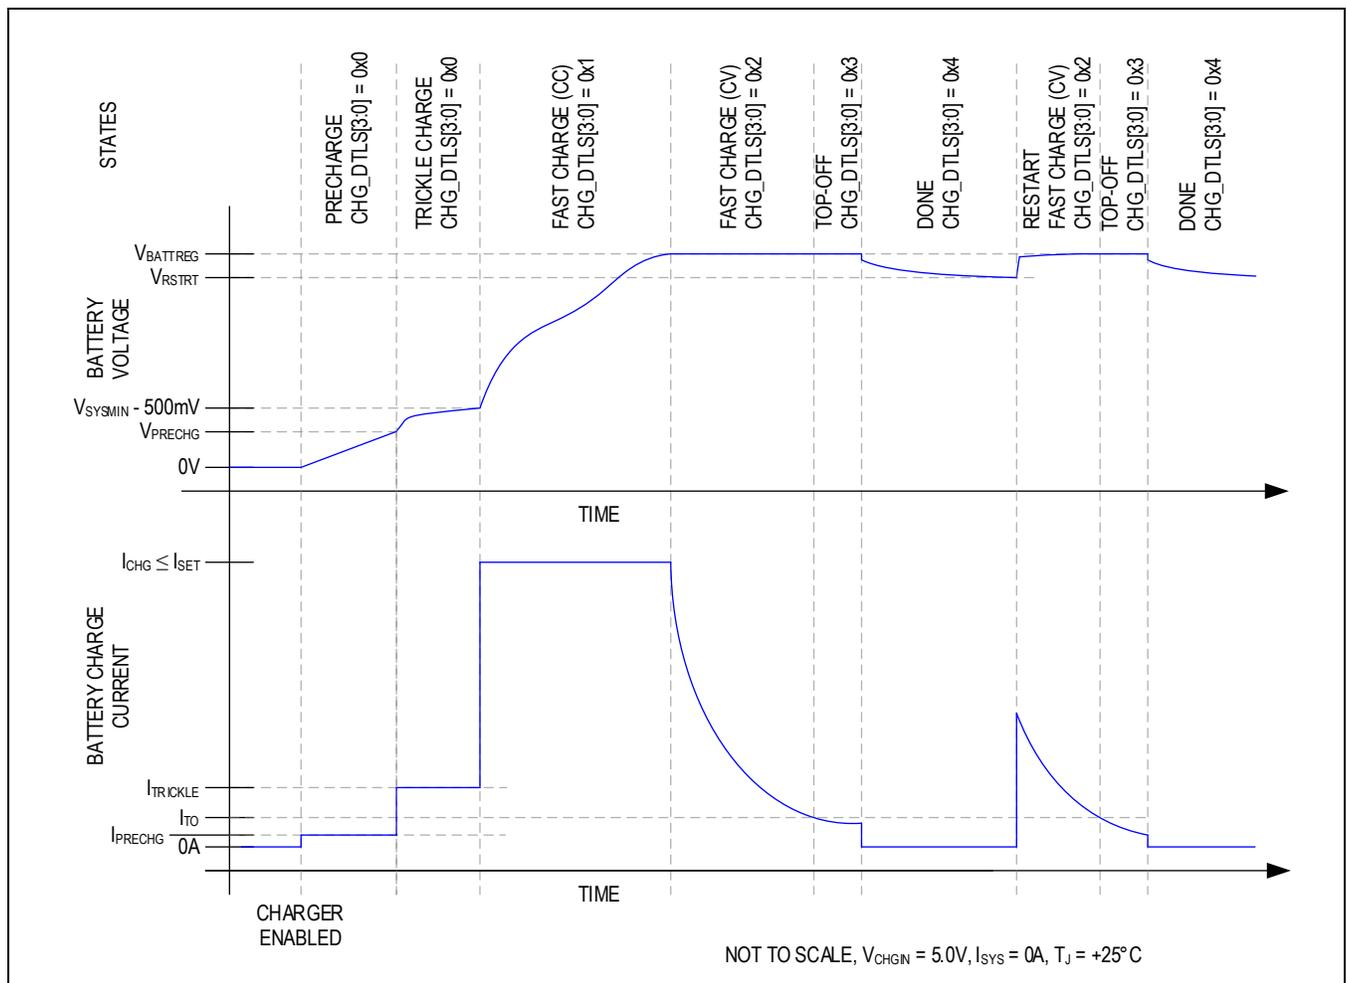
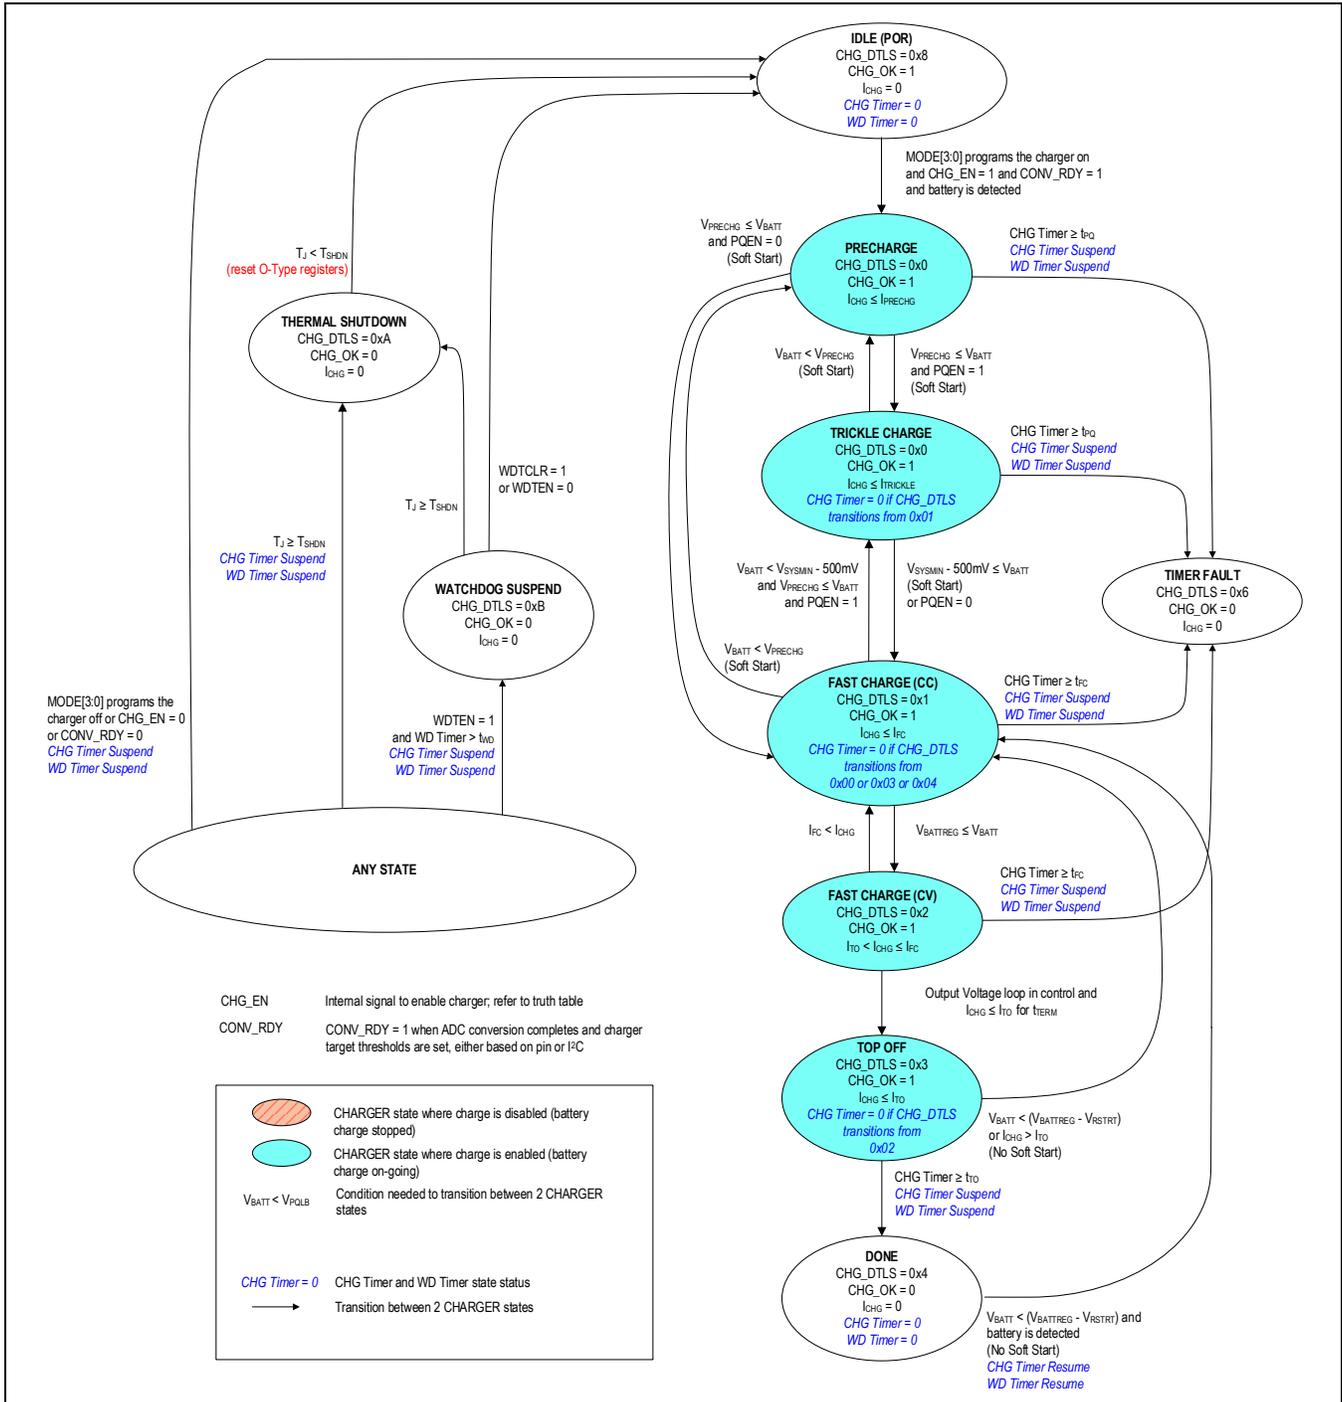

Figure 3. Li+/Li-Poly Charge Profile
Figure 4. Charger State Diagram
The MAX77963 utilizes several charging states to charge batteries safely and quickly as shown in Figure 3 and Figure 4. Figure 3 shows an exaggerated view of a Li+/Li-Poly battery progressing through the following charge states when there is no system load, and the die and battery are close to room temperature: Prequalification  $\rightarrow$  Fast-charge  $\rightarrow$  Top-off  $\rightarrow$  Done.
From any state shown in Figure 4, except thermal shutdown, the “no input power or charger disabled” state is entered whenever the charger is programmed to be off or the charger input CHGIN is invalid. After being in this state for tSCIDG, CHG\_DTLS is set to 0x08, and CHG\_OK is set to 1. A CHG\_I interrupt is generated if CHG\_OK was 0 previously.
As shown in Figure 4, the charger enters the precharge state when the battery voltage is less than  $V_{PRECHG}$ . After being in this state for  $t_{SCIDG}$ , a CHG\_I interrupt is generated if CHG\_OK was 0 previously, CHG\_OK is set to 1, and CHG\_DTLS is set to 0x00. In the precharge state, charge current into the battery is  $I_{PRECHG}$ .
As shown in Figure 4, the charger state machine is in trickle charge state when  $V_{PRECHG} < V_{BATT} < V_{SYSTEMIN} - 500mV$ . After being in this state for  $t_{SCIDG}$ , a CHG\_I interrupt is generated if CHG\_OK was 0 previously, CHG\_OK is set to 1, and CHG\_DTLS = 0x00.
As shown in Figure 4, the charger enters the fast-charge constant current (CC) state when  $V_{SYSTEMIN} - 500mV$  (typical)  $< V_{BATT} < V_{BATTREG}$ . After being in the fast-charge CC state for  $t_{SCIDG}$ , a CHG\_I interrupt is generated if CHG\_OK was 0 previously, CHG\_OK is set to 1, and CHG\_DTLS = 0x01.
As shown in Figure 4, the charger enters the fast-charge constant voltage (CV) state when the battery voltage rises to  $V_{BATTREG}$  from the fast-charge CC state. After being in the fast-charge CV state for  $t_{SCIDG}$ , a CHG\_I interrupt is generated if CHG\_OK was 0 previously, CHG\_OK is set to 1, and CHG\_DTLS = 0x02.
In the fast-charge CV state, the battery charger maintains  $V_{BATTREG}$  across the battery and the charge current is less than or equal to  $I_{FC}$ . As shown in Figure 3, charger current decreases exponentially in this state as the battery becomes fully charged.
As shown in Figure 4, the top-off state can only be entered from the fast-charge CV state when the charger current decreases below  $I_{TO}$  for  $t_{TERM}$ . After being in the top-off state for  $t_{SCIDG}$ , a CHG\_I interrupt is generated if CHG\_OK was 0 previously, CHG\_OK is set to 1, and CHG\_DTLS = 0x03. In the top-off state the battery charger maintains  $V_{BATTREG}$  across the battery and typically the charge current is less than or equal to  $I_{TO}$ .
As shown in Figure 4, the battery charger enters its done state after the charger has been in the top-off state for  $t_{TO}$ . After being in this state for  $t_{SCIDG}$ , a CHG\_I interrupt is generated only if CHG\_OK was 0 previously, CHG\_OK is set to 0, and CHG\_DTLS = 0x04.
The battery charger provides both a charge timer and a watchdog timer to ensure safe charging. As shown in Figure 4, the charge timer prevents the battery from charging indefinitely. The time that the charger is allowed to remain in its prequalification states is  $t_{PQ}$ . The time that the charger is allowed to remain in the fast-charge CC and CV states is  $t_{FC}$  which is programmable with FCHGTIME. Finally, the time that the charger is in the top-off state is  $t_{TO}$  which is programmable with TO\_TIME. Upon entering the timer fault state, a CHG\_I interrupt is generated without a delay, CHG\_OK is cleared, and CHG\_DTLS = 0x06.
The charger is off in the timer fault state. The charger can exit the timer fault state when the charger is programmed to be off then on again through the MODE bits or when DISQBAT pin is toggled from L-H-L. Alternatively, the charger input can be removed and re-inserted to exit the timer fault state (see the “ANY STATE” bubble in Figure 4).
The battery charger provides both a charge timer and a watchdog timer to ensure safe charging. As shown in Figure 4, the watchdog timer protects the battery from charging indefinitely if the host hangs or otherwise cannot communicate correctly. The watchdog timer is disabled by default with WDTEN = 0. Enable the feature by setting WDTEN = 1. With watchdog timer enabled, the host controller must reset the watchdog timer within the timer period ( $t_{WD}$ ) for the charger to operate properly. Reset the watchdog timer by programming WDTCLR = 0x01.
As shown in Figure 4, the state machine enters the thermal shutdown state when the junction temperature ( $T_J$ ) exceeds the device's thermal-shutdown threshold ( $T_{SHDN}$ ). When  $T_J$  is close to  $T_{SHDN}$ , the charger would have already folded back the input current to 0A (see the Thermal Foldback section for more details), so the charger and the DC-DC are effectively off. Upon entering this state, CHG\_I interrupt is generated if CHG\_OK was 1 previously, CHG\_OK is cleared, and CHG\_DTLS = 0x0A.